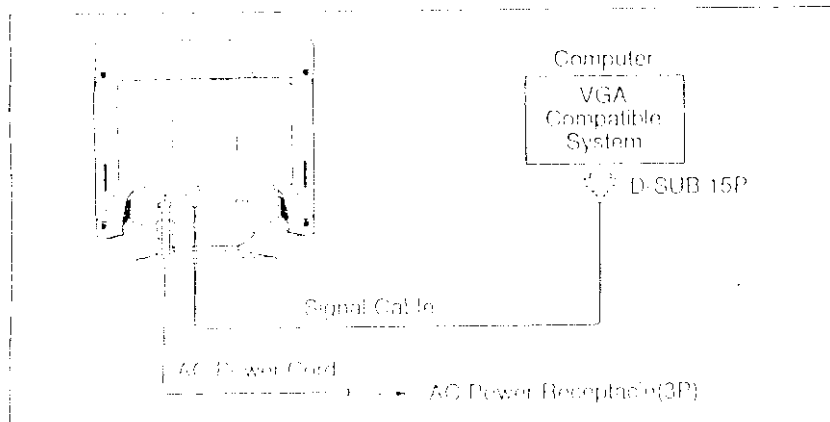

Figure 3.
2. Connect the monitor signal cable to the 15-pin connector on the graphic card (see Figure 3).